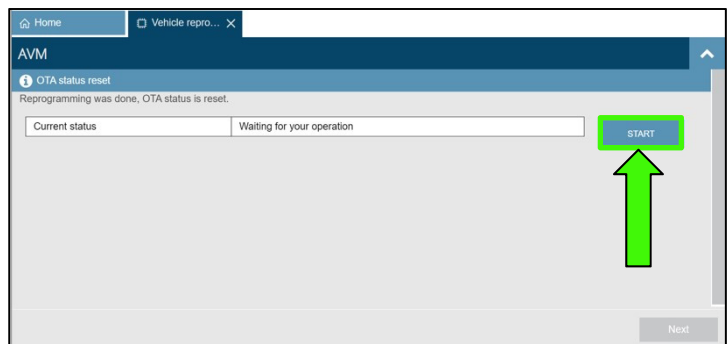

Figure 18
19. When the screen in Figure 18 is displayed, select **START**.